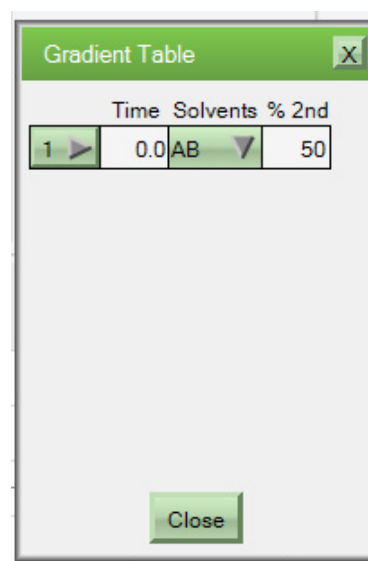

Figure 3-7: Gradient Table
1. Press the *Table* button to present the *Gradient Table* (Figure 3-7).
The boxes that indicate AB in Figure 3-9 are used to select the solvents to be used in the gradient in the same manner as the *Gradient* table (Figure 3-7).